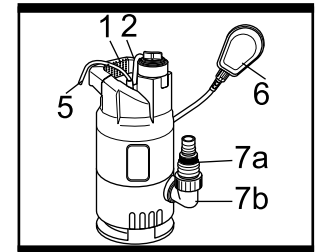

Fig. 6
- (1). The automatic air bleed valve releases any air in the pump body. During this process air escapes through the vent bore (3a) in the plastic plug (3) and air bubbles appear underwater. It may take several seconds when the product is immersed for the first time.
5. Manual operation. (See Fig. 6)